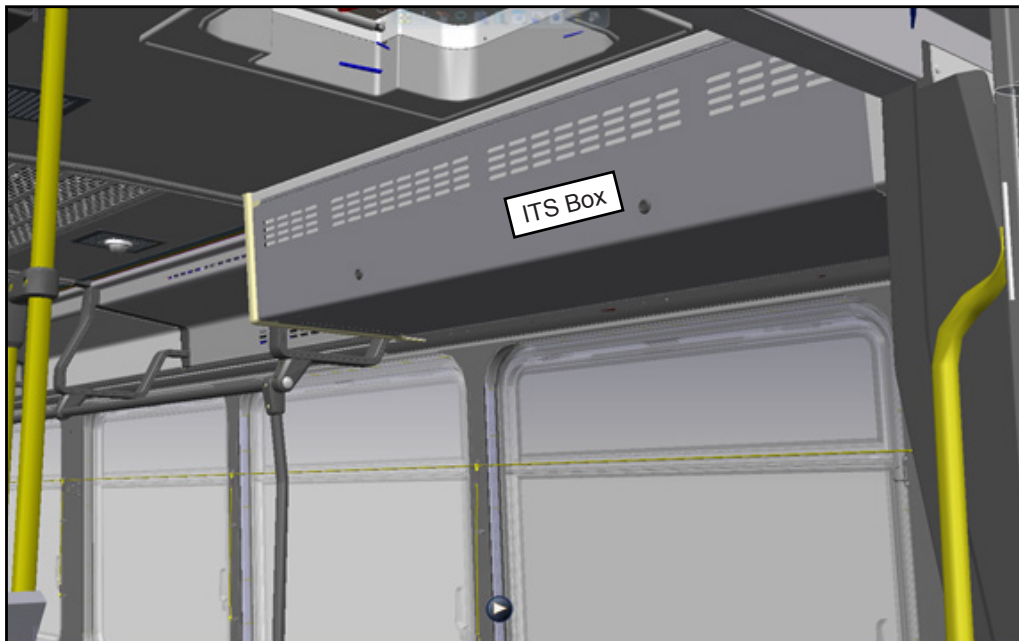

Figure 2 - Typical Location of ITS Box
- 1.5. Locate and open the ITS box (if present) on the street side baselight (see Figure 2).